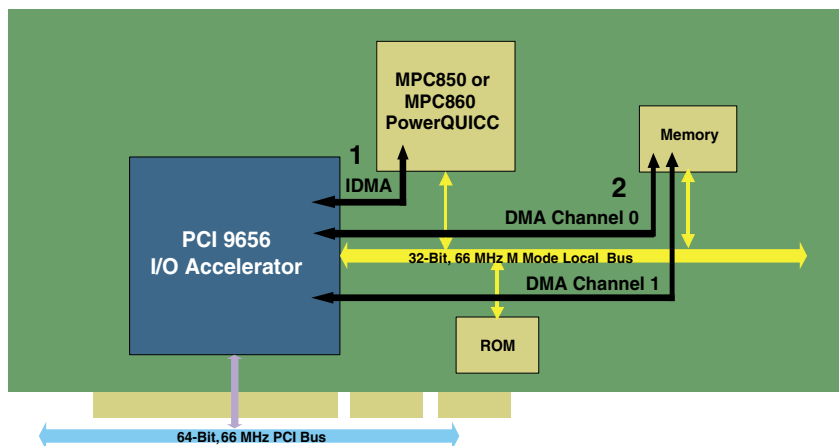

Figure 1-3. High-Performance MPC850 or MPC860 PowerQUICC Adapter Design
In addition, the PCI 9656 makes use of the advanced Data Pipe Architecture technology, allowing unlimited burst capability, as shown in Figure 1-3.
Regarding items 1 and 2 in Figure 1-3:
1. For PowerQUICC IDMA operation, the PCI 9656 transfers data to the PCI Bus under the control of the IDMA handshake protocol using Direct Master transfers (1).
2. Simultaneously, the PCI 9656 DMA can be operated bi-directionally, with the PCI 9656 as the Master for both buses, to manage transfers of data between the PCI and Local Buses (2).